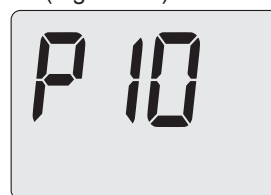

Figure 9.8
- The code **P10** appears on the display, indicating entry into "parameter P10" (Figure 9.8).
5 Press "A" or "B" (Figure 9.5) to confirm the value entered and return to the list of parameters (Figure 9.8).